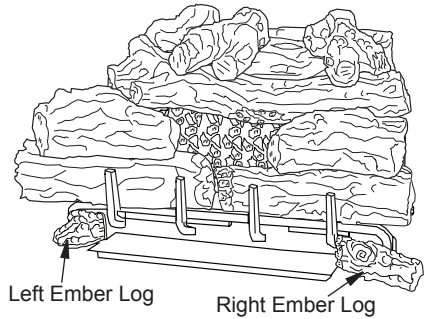

Figure 35 - Installing Ember Logs
- Place the left and right ember logs as shown in Figure 35. Do not place the logs on the ember bed pan they are intended to cover the sheet metal on the front of the base assembly.